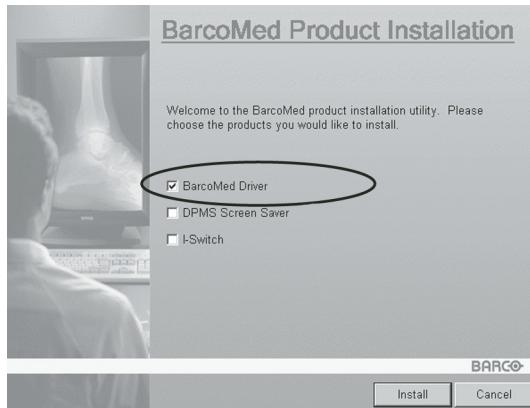

Figure 50
3. To update the driver, clear the checkbox next to “**DPMS Screen Saver**” and “**I-Switch**” (figure 50) and click “**Install**”.